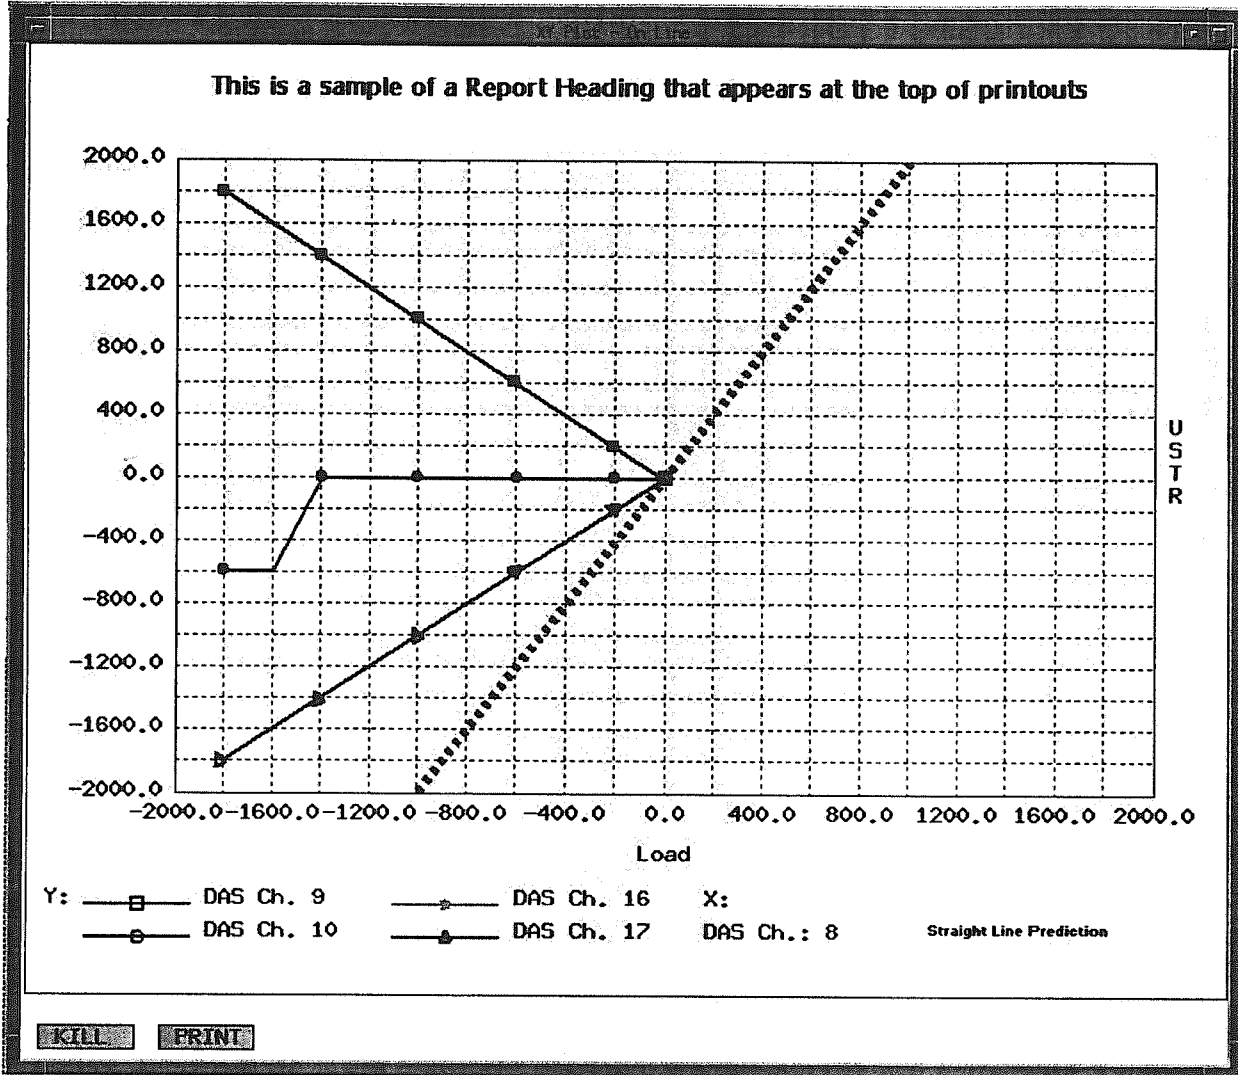

Figure 12-11 Example of an On-Line XY Plot
Step 11) Select **OK** or press **RETURN**. A window similar to the one shown in **Figure 12-11** will appear.